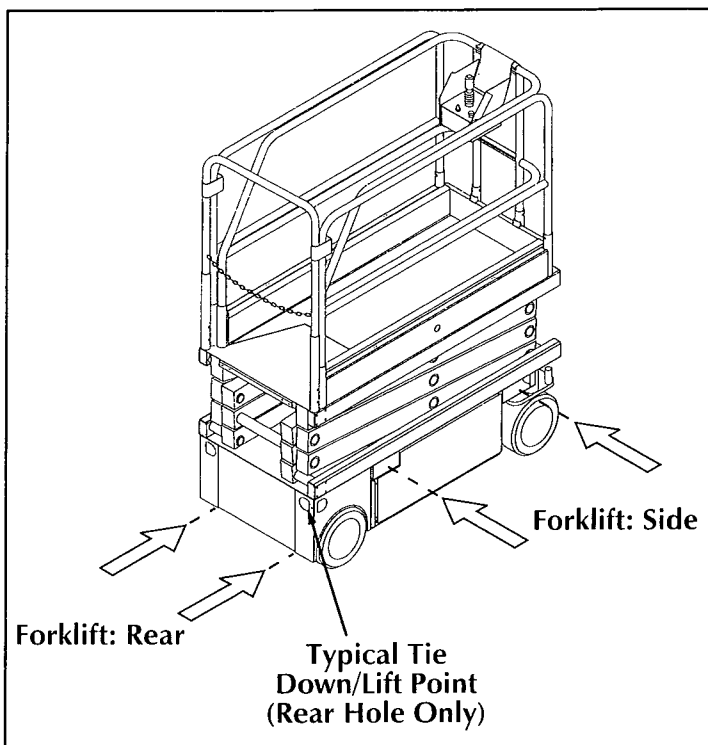

Figure 2-2: Transporting machine
Forklift from the side by lifting under the Chassis (Figure 2-2).
Secure straps to chassis tie down/lift points **only** (Figure 2-2).
2. Secure the work platform to the transport vehicle with chains or straps of adequate load capacity attached to the chassis tie down points (Figure 2-2).